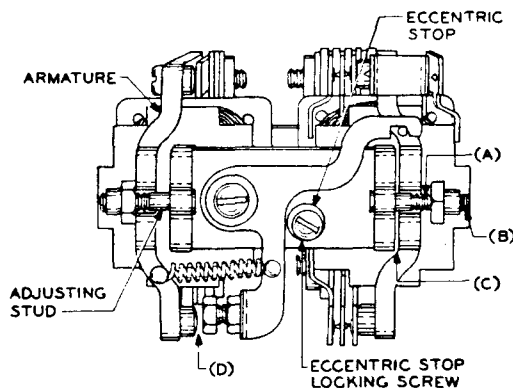

Fig. 104
- 2.07 Adjusting Stud Clearance:** Fig. 104(A) — The armature shall not rub against the adjusting stud.
- 2.08 Adjusting Nut Tightness:** Fig. 104(B) — The adjusting nuts shall be sufficiently tight on the studs to prevent their being turned with the thumb and forefinger. This requirement is considered as having been met if the nut does not turn under a turning pressure of one inch-
**2.10 Operated Armature Airgap:** Fig. 104(C) —